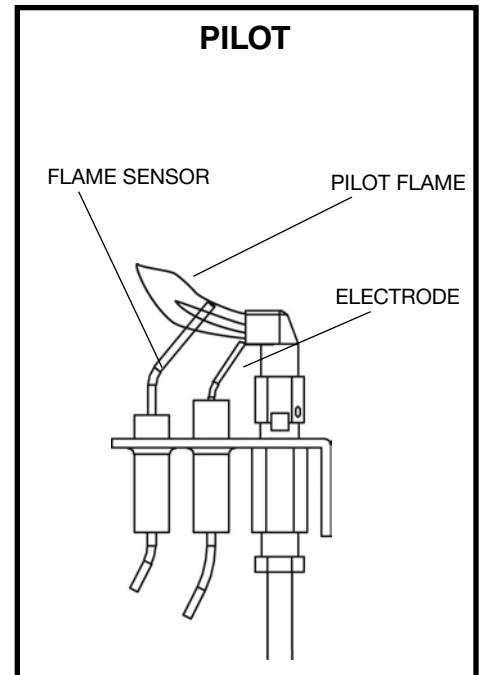

Figure 60: Pilot assembly.
- b) Check the pilot system for proper flame size and operation. Clean pilot free of soot, dust or any other deposits. (Figure 60)